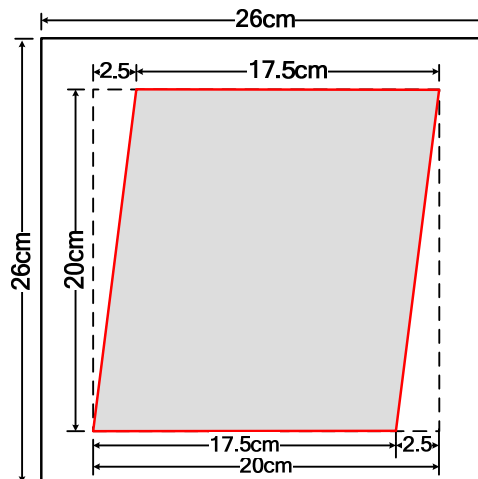

Figure 2. The allowable site area of the model.
4.2.2 The allowable site area is the gray quadrilateral shown in Figure 2. The projection of the entire model onto the base board must be within this gray quadrilateral. Shifting or rotating the entire model is not allowed.